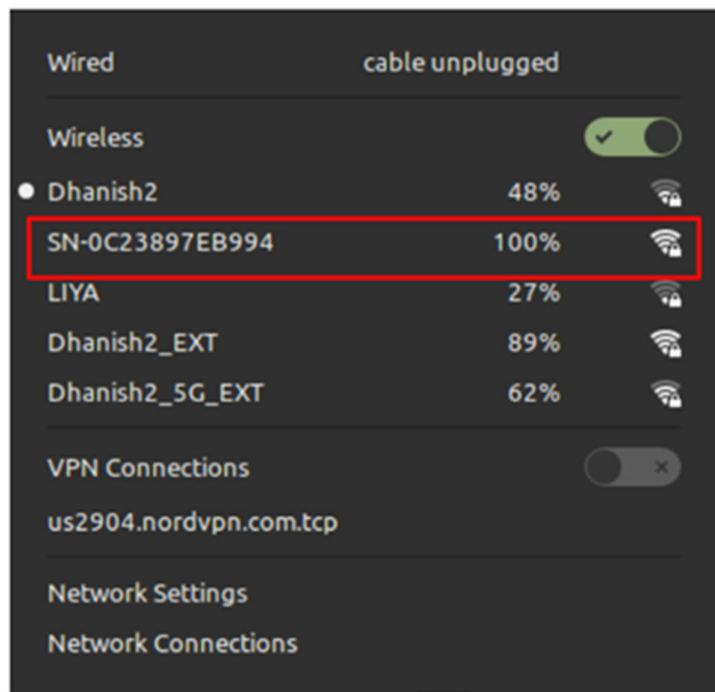

Figure 4.11
- 4.7.9.1. **Step 3:** Open a computer or iPad with Wi-Fi, check for the available Wi-Fi networks. Select the sensor as the Access Point, this can be identified with a name starting with SN and has the format SN-XXXXXXXXXXXX. See Figure 4.11.